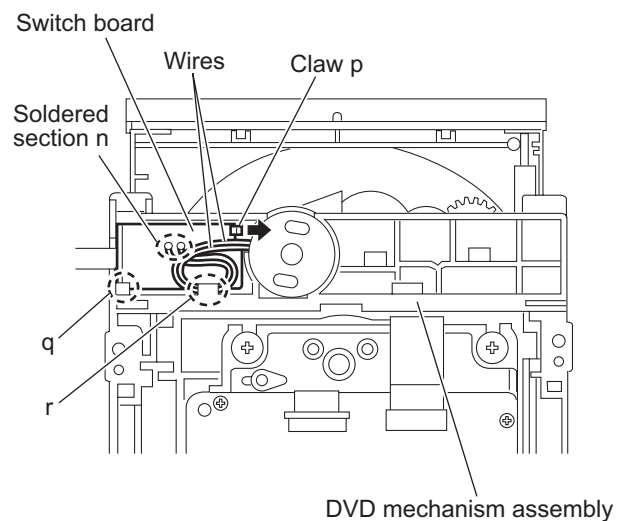

Fig.14
### 3.3.8 Removing the switch board (See Fig.14.)
### 3.3.9 Removing the motor (See Figs.14 and 15)
- (1) From the bottom side of the DVD mechanism assembly, remove the wires from the soldered section **n** on the switch board. (See Fig.14.)
Put the wires on the section **r** after attaching the motor to the DVD mechanism assembly. (See Fig.14.)